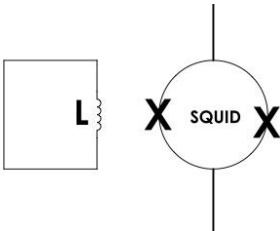

Figure 1. Shorted Circuit
- A SQUID with a short installed (see Figure 1).